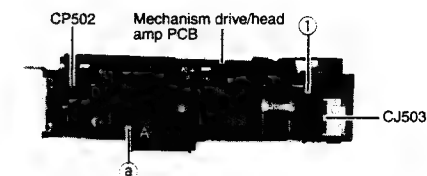

Fig. 9
1. Remove one screw ① to remove the mechanism bracket. (Fig. 9)
2. Remove the connector CP502 Mechanism drive/head amp PCB and head relay PCB. (Fig. 9)
3. Shift the interlocking section ② securing the mechanism drive/head amp PCB in the direction shown by the arrow A to remove the Mechanism drive/head amp PCB. (Fig. 9)
4. Remove the connector CJ503 connecting Mechanism drive/head amp PCB and head relay PCB. (Fig. 9)